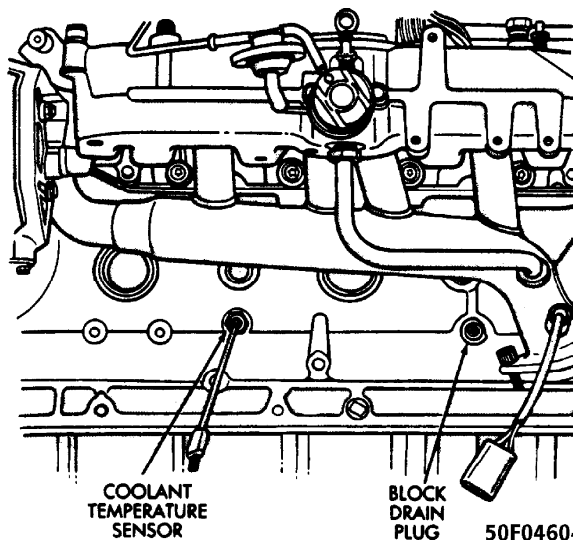

Fig. 13: Location of Coolant Temperature Sensor (CTS)
1) Disconnect the CTS wire harness connector from the CTS. See Fig. 13.